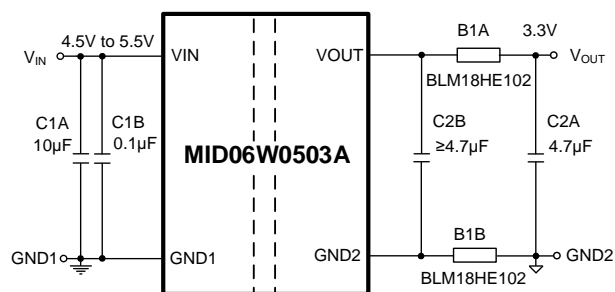
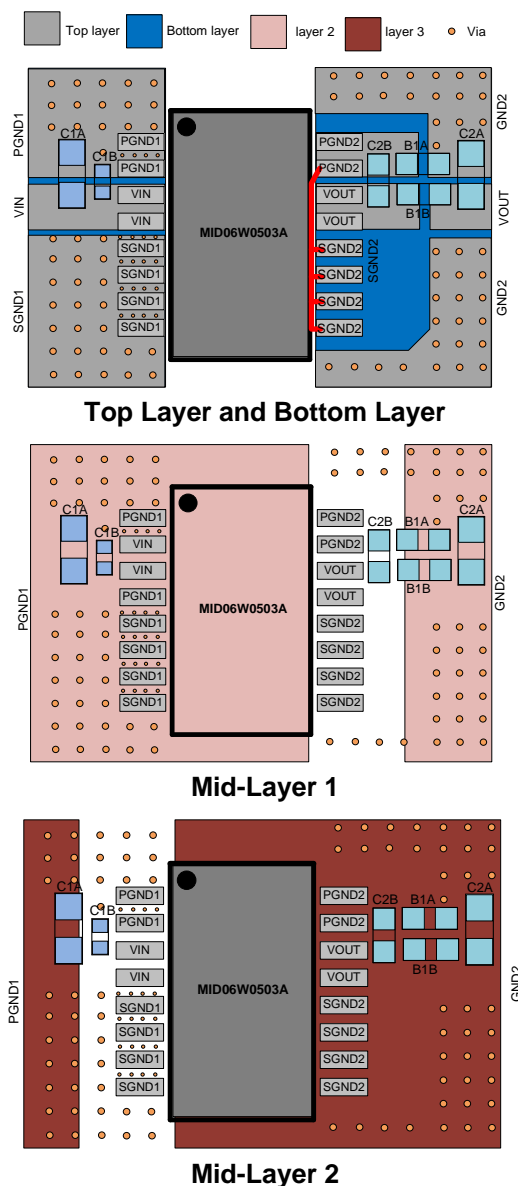

Figure 2: Recommended EMI Schematic
Figure 3: Recommended PCB Layout
8) See Figure 2 on page 9 and Figure 3 on page 10 for details on the EMI circuit and PCB layout.
Aside from the two PCB layout techniques described above, a pair of ferrite beads are required to form a CLC structure filter (see Figure 2). Place this filter as close to VOUT and PGND2 as possible. The capacitor closest to the IC (C2B) should be $\geq 4.7\mu\text{F}$ to ensure a stable output. Do not place large copper areas on the secondary side pins, as this can increase switching noise and EMI. Connect SGND2 and PGND2 using a thin trace. Connect SGND2 and PGND2 using a thin trace.
Efficient PCB layout is critical for stable operation. For the best results, refer to Figure 3 and follow the guidelines below:
5. Connect SGND2 and PGND2 using a thin trace (below the red trace in Figure 3) to reduce radiation.